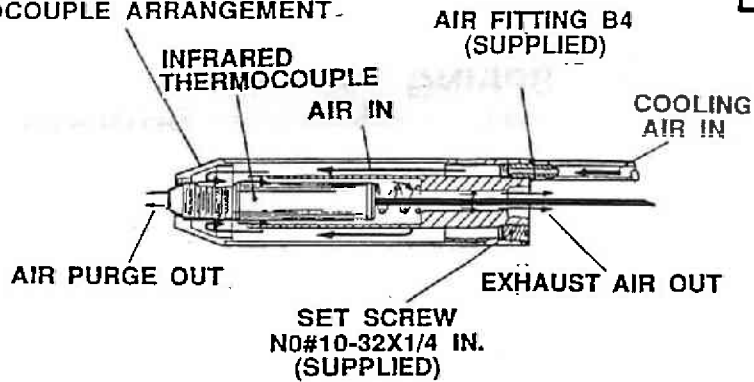

FIG.4
5. Install the Air Fitting B4 as shown in Figure 4 and 4A.
6. Install the Set Screw as shown in Figure 4 and 4A. (IMPORTANT. This must be installed to route air flow properly through the cooling assembly. The opening should not be used for exhaust air unless you use the center hole with the thermocouple wire as an intake port.)